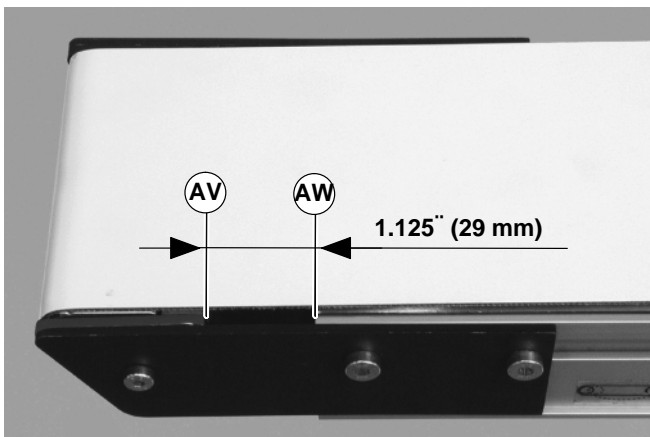

Figure 28
2. Adjust head plate assembly so the edge of the axle support plate (AV of Figure 28) is separated from the end of the conveyor (AW) by 29 mm. Replace belt if proper tensioning can not be obtained within a distance of 38 mm. See NOTE.